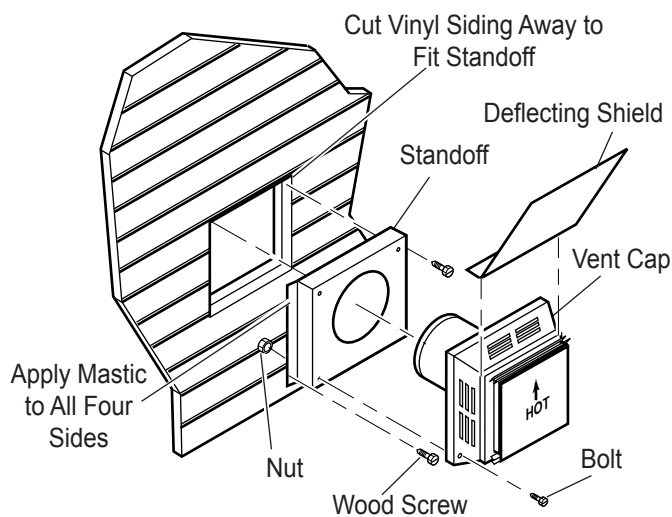

**Figure 13 - Rigid Vent Pipe Connections**
**Twist-lock Procedure:** The female ends of the pipes and fittings have three locking lugs (indentations). These lugs will slide straight into matching slots on the male end of adjacent pipes and fittings. Push the pipe sections together and twist one section clockwise approximately one-quarter turn until the sections are fully locked. See Figure 13.